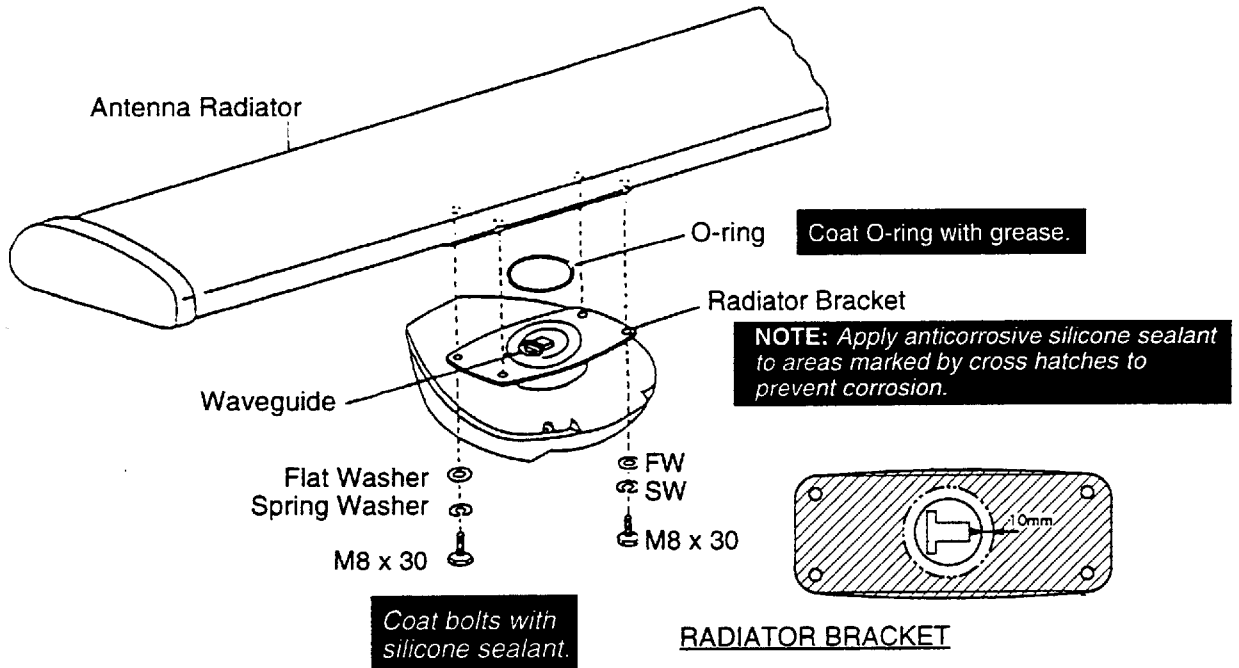
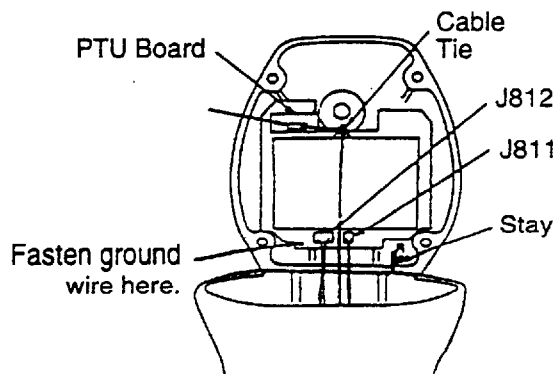

Figure 5-6 Fixing the radiator to the scanner housing
Figure 5-7 Scanner unit, cover opened
- 3) Now is the time to fix the radiator to the radiator bracket. Remove the rubber cap on the radiator bracket and orient the radiator bracket as shown in Figure 5-6. Referring to Figure 5-7, apply grease to the O-ring and set it to the center of the radiator bracket. Coat the radiator fixing bolts with silicone sealant. Fix the radiator to the radiator bracket with the FURUNO logo on the radiator facing ship's bow.
- 4) Open the scanner housing cover and fix the stay as shown in Figure 5-7.
- 5) One end of the cable with 15-, 9- and 7-way plugs has already been connected to the RTB Board inside the scanner housing. Mate the 15- and 9-way plugs with jacks J812 and J811 on the transceiver module, respectively. Connect the 7-way plug to jack J701 on the MP Board. Secure the cable between the RTB Board and J701 with the cable tie as shown in Figure 5-7.
- 6) The black wire of the cable is the ground wire. Fasten it to the chassis of the transceiver module with the ground screw shown in Figure 5-7.